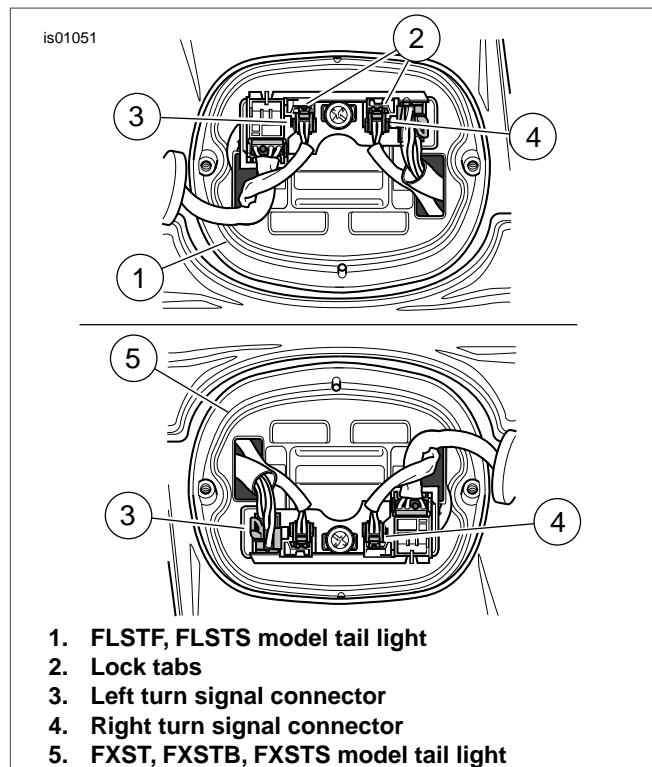

Figure 1. Turn Signal Connectors
4. See Figure 1. Remove the screws fastening the lens to the tail lamp.